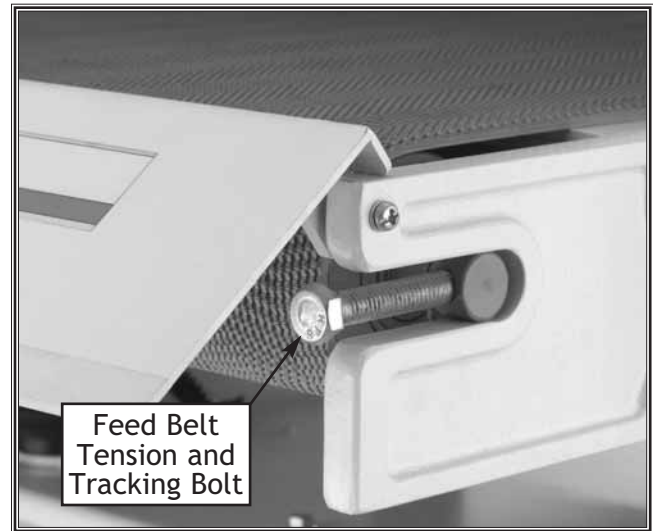

Figure 21. Feed belt tension bolt shown with the emergency brake raised.
1. Lift and hold the emergency stop plate up and out of the way. See **Figure 21**.
4. Turn the feed belt tension and tracking bolt to position the feed belt roller evenly on each side. See **Figure 21**.